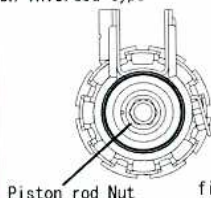

figure 3
14. Removal of nut atop the piston rod is required when cutting bump rubber. Be sure to properly re-attach and re-tighten the nut. (Note: Piston rod nut is located a bottom of coilover on inverted type dampers, see figure 3)